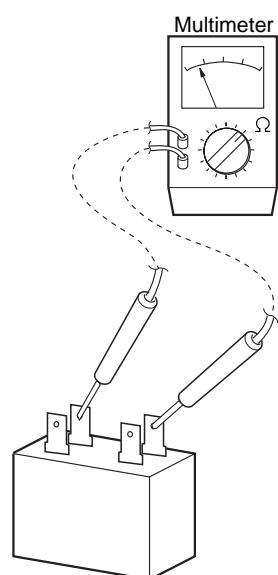

Fig. 30
⑤ Fan motor capacitor Both in indoor and outdoor unit
- Remove the lead wires from the capacitor terminals, and then place a probe on the capacitor terminals as shown in Fig. 30. Observe the deflection of the pointer, setting the resistance measuring range of the multimeter to the maximum value.